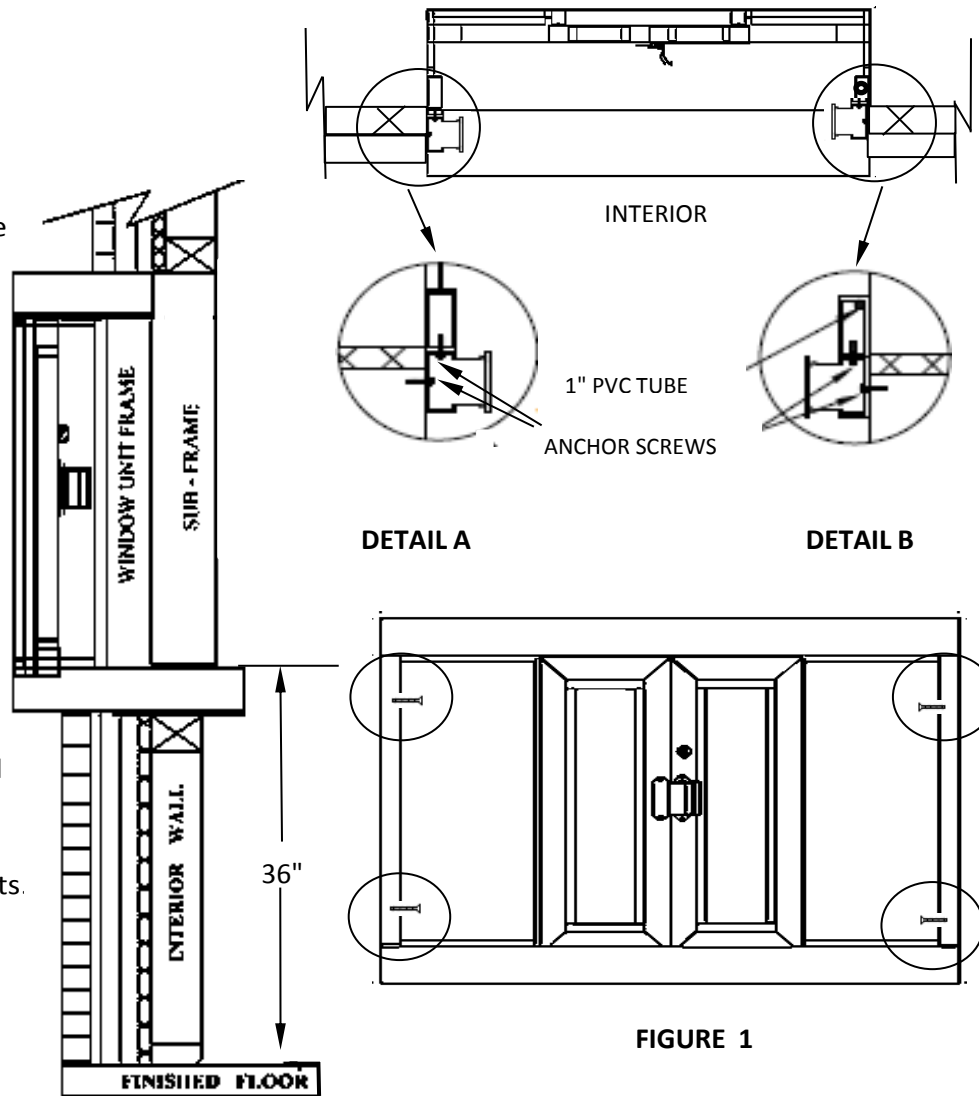

FIGURE 1
- 4) If not using sub-frame, use caution when drilling thru side jamb. Drilling into 1" pvc tube will void warranty. (See Figure 1)